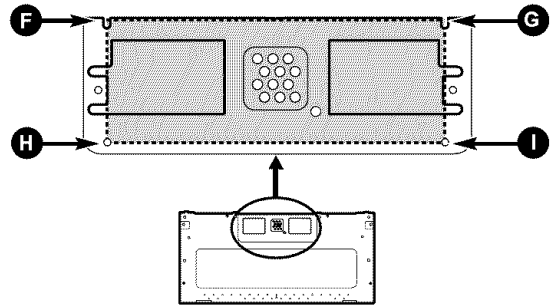

Figure 28
1. Place the mounting plate against the rear wall as described in step 5 item 1 (page 15).
2. Using a pencil, put dots through slots "F" and "G", and through holes "H" and "I". Remove the mounting plate and draw lines extending through the points. This will give the location and size of the box cutout for the rear wall duct. See **Figure 28**.